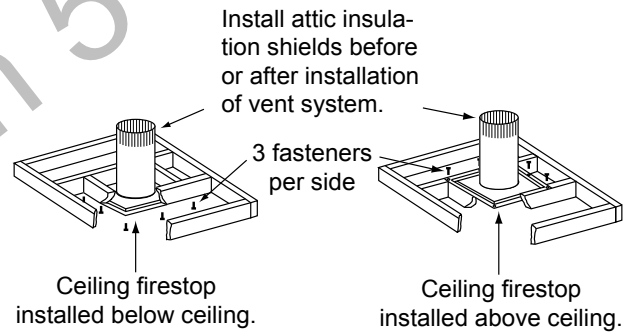

Figure 56 – Installing Ceiling Firestop & Attic Insulation Shield
- The ceiling firestop may be installed above or below the ceiling. *Figure 56*